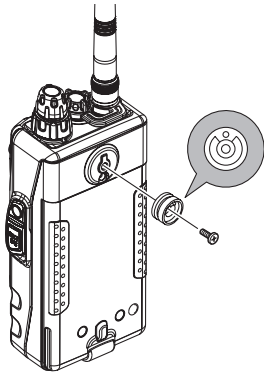

Fig 1
- Connect the hanger to the rear of the **FTA-310**, with the notch pointing directly up, using the supplied screw (Fig 1). Use only the screw included with the clip to mount the clip to the back of the **FTA-310**.